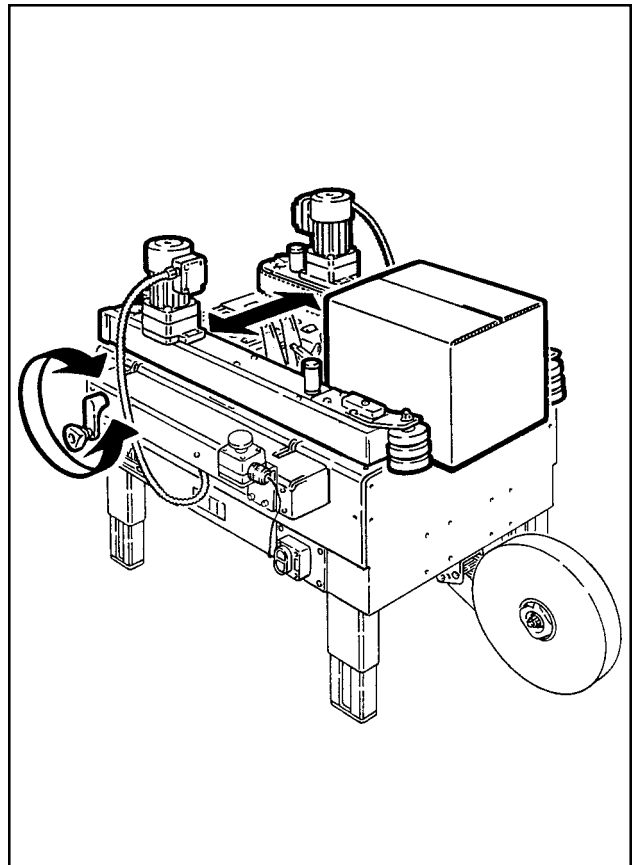

Figure 3-2 – Side Drive Belts
7. Taping head utilizes an extremely sharp tape cut-off knife. The knife is located under the orange knife guard that has the "WARNING – SHARP KNIFE" label. Before loading tape, refer to Section II, page 6, Figure 3-2 to identify the knife location. Keep hands out of this area except as necessary to service the taping head.
#### 1. ADJUST DRIVE BELTS (Figure 3-2)